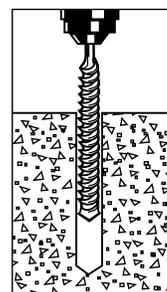

Figure 14
3. Drill the marked holes using a 1/4" masonry drill bit. Drill the hole into the concrete base to a depth of at least 1/2" deeper than the length of the 1/4" x 3" Wedge-Bolt Anchors. Blow the hole clean of dust and debris (Figure 14).